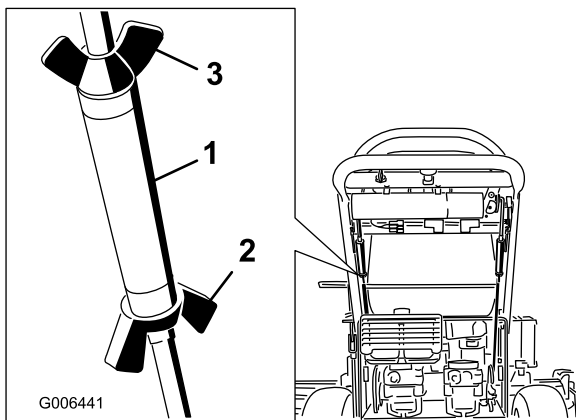

Figure 30
3. Loosen the wing nuts on the right control rod and rotate the turnbuckle in or out to ensure the right side control lever is centered in the neutral lock position. Secure the turnbuckle in position with the wing nuts (Figure 30).
4. Loosen the wing nuts on the left control rod and rotate the turnbuckle in or out to change the tracking. Secure the turnbuckle in position with the wing nuts (Figure 30).